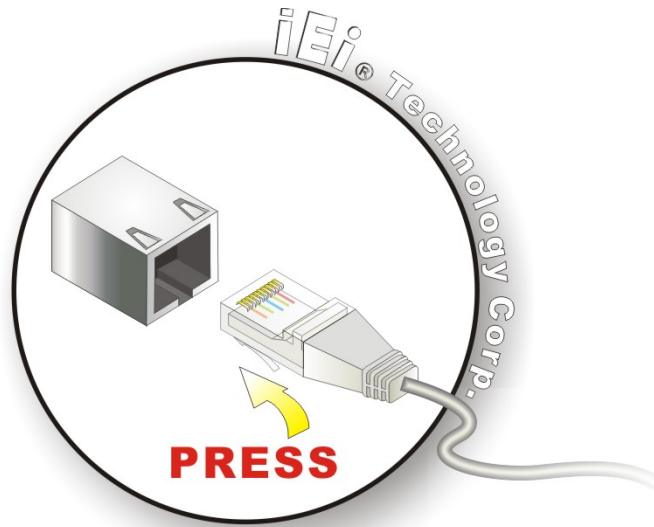

Figure 4-12: LAN Connection
Step 2: Align the connectors. Align the RJ-45 connector on the LAN cable with one of the RJ-45 connectors on the WSB-G41A. See **Figure 4-12**.